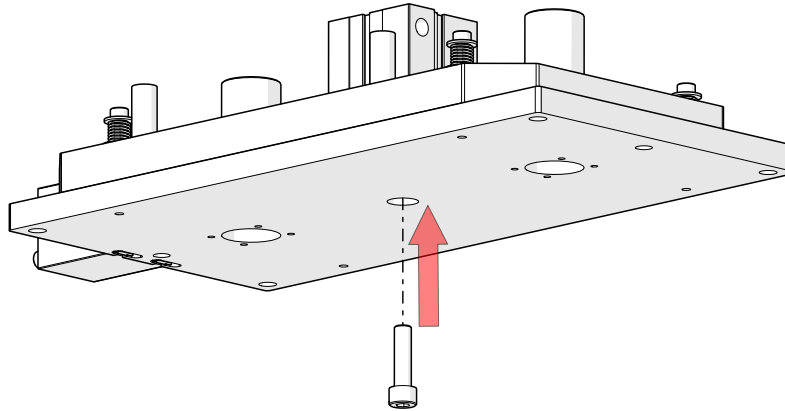

Figure 11: Reinstalling M8 X 30 SHCS
Step 6: Reinstall M8 X 30 SHCS as shown in Figure 11